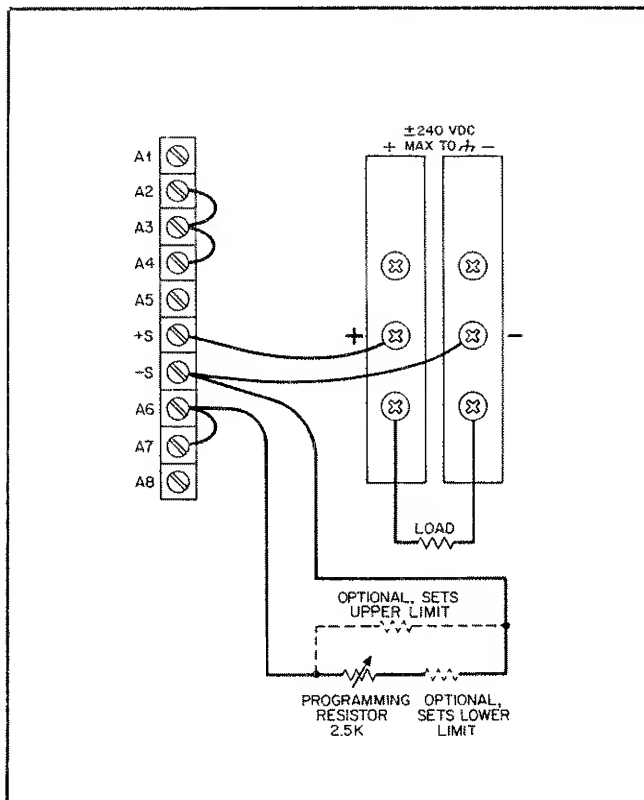

Figure 3-6. Resistance Programming of Output Voltage
should be connected to ground at one end only. (For clarity, Figures 3-6 through 3-13 do not show shielded cable.)
3-50 Although the following connection drawings (Figures 3-6 through 3-13) show the supply strapped for local sensing, remote programming and remote voltage sensing do not interact and may be used simultaneously.
**3-51 Resistance Programming of Output Voltage.** The rear-panel connections shown in Figure 3-6 allow the output voltage to be varied by using an external resistor to program the supply. A programming resistor variable from 0 to 2500 ohms produces a proportional output voltage from zero to full scale. Note that fixed resistors may be connected in series and/or parallel with the variable programming resistor to set lower and/or upper output voltage limits. The resultant programming resistance is the sum of the series/parallel resistor combination, and must be between 0 and 2500 ohms.